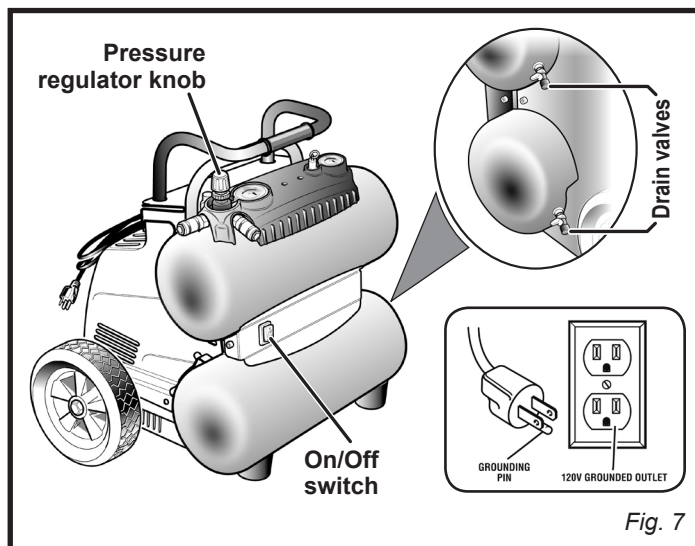

Fig. 7
See figures 7 - 8.
- Ensure the tank drain valves are closed (see fig. 7).
- Ensure the ON/OFF switch is in the **OFF (O)** position and the air compressor is unplugged (see fig. 7).
- Ensure the pressure regulator knob is turned fully counterclockwise (see fig. 7).